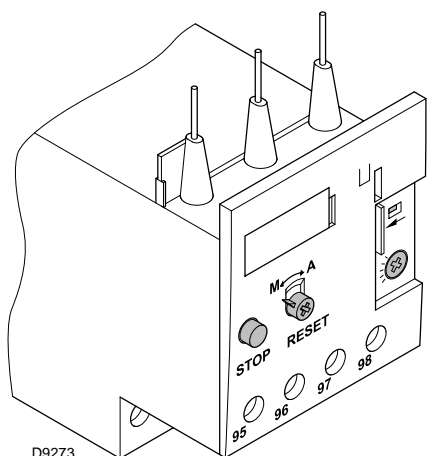

Fig. 31
The electro-mechanical thermal relay (Fig. 31) is used to avoid damage to the motor owing to a strong increase in absorption or the lack of a phase.
- To reset, in the case of an intervention of the thermal relay, press the button “RESET” (Fig. 31).
- The button “STOP” (Fig. 31) opens the NC (95-96) contact and stops the motor.